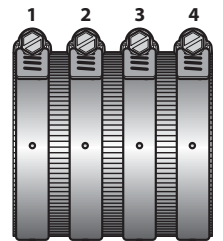

Figure 16
8.9.1. For sizes 1-1/2" to 4", tighten inner clamp 2 and 3 alternately in 20 inch-lb increments until the recommended 80 inch-lb is reached. Then tighten outside clamp 1 and 4 alternately in 20 inch-lb increments until the recommended 80 inch-lb is reached (See Figure 16).